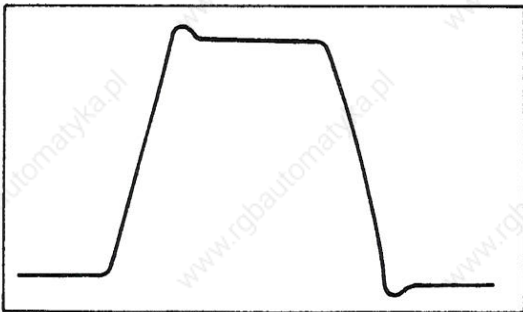

Fig. 3.6/2 Speed curve at properly adjusted P- und I-gain after a jump from  $0 \rightarrow n_{max} \rightarrow 0$
- Reduce the value and determine optimum curve (repeat presetting of single reference jump several times, see Figs. 3.6/1 and 3.6/2).